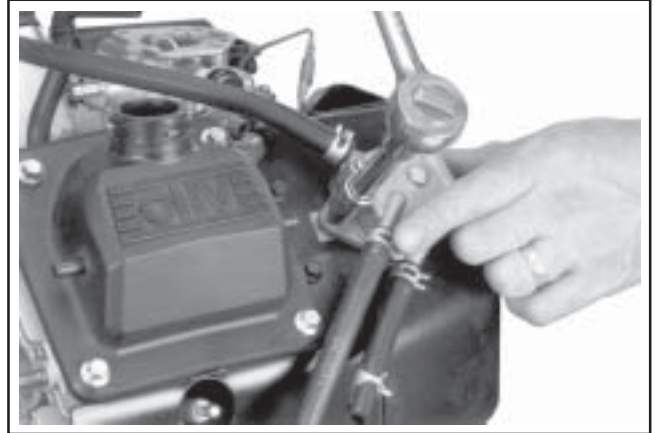

Figure 9-18. Removing Screws Holding Fuel Pump (Metal Bodied Pump Shown).
3. Remove the two hex flange screws securing the fuel pump to the bracket or to the blower housing. See Figure 9-18. The fuel pump body may be metal or plastic.